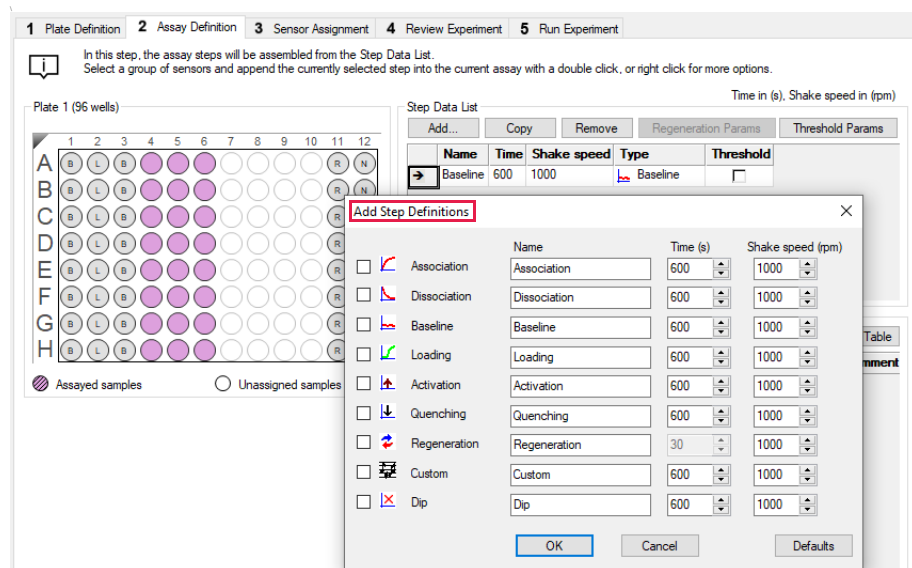

Figure 8-25: Creating an Assay Step Type
Click the **Assay Definition** tab, or click the  arrow to access the Assay Definition window (see Figure 8-25). The **Step Data List** has the types of assay steps that are available to build an assay. By default, the list includes a baseline step.
2. In the **Assay Step Definition** dialog box (Figure 8-25), multiple assay steps can be added at the same time. For each step, specify the step information: